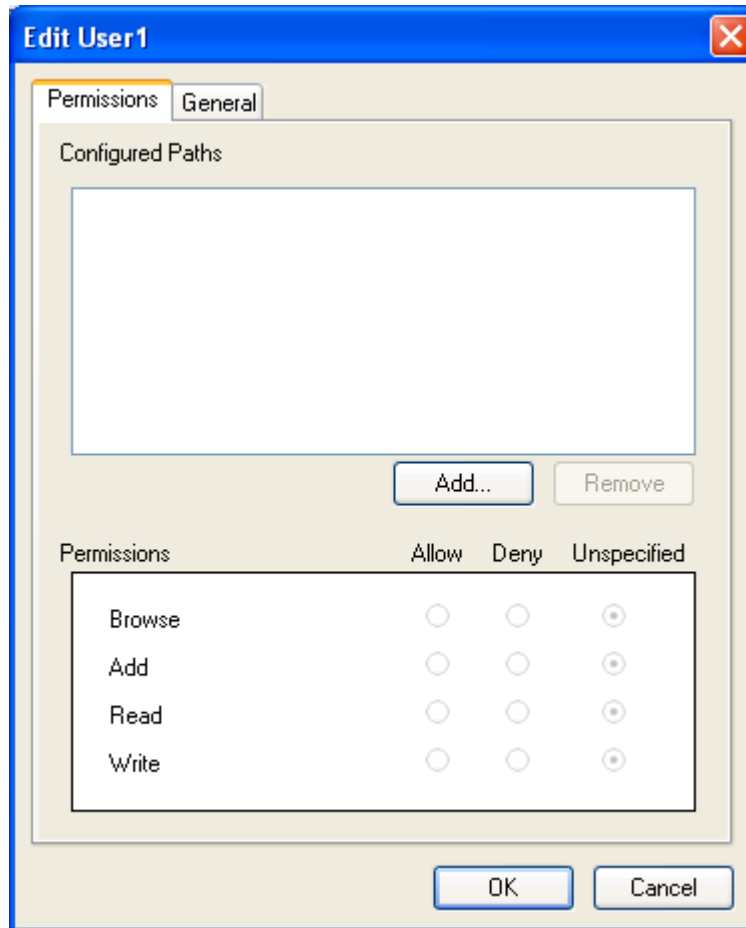

Figure 55 - Edit <Username> Window (Permissions Tab)
6. The **Edit <Username>** window (Figure 55) appears. Follow the instructions in the **Edit User** section for adding permissions.
2. The **Edit <Username>** window (Figure 55) appears.